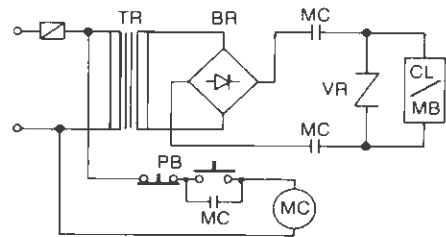

Figure 2.
- Push buttons may be used to operate a control relay. The capacity of the contacts should be at least 10 times the steady-state load current (figure 2.)